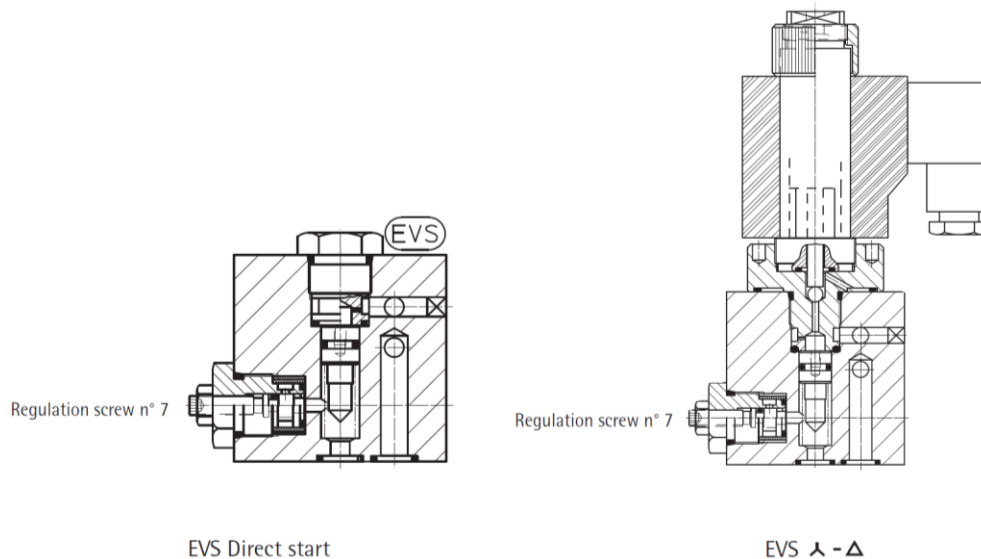

Figure 50 – EVS with and without coil: sections
- In case of installations with coil EVS, disassemble the Δ – Δ group, unscrew the mechanical part of the coil, shake it strongly to verify if the piston inside moves free (shake it strongly, because the piston is braked by a spring). In case of installations without coil EVS, remove the cap EVS. For both the cases, clean the brass piston, clean the parts disassembled and reassemble them (see Figure 50).